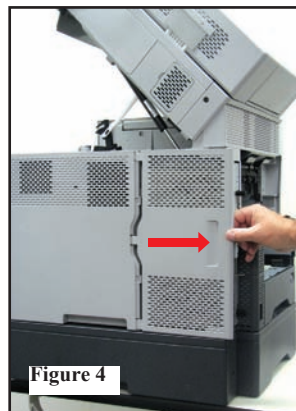

Figure 4
8. Remove the rear left door by sliding it to the left to expose the formatter cage. (Figure 4)